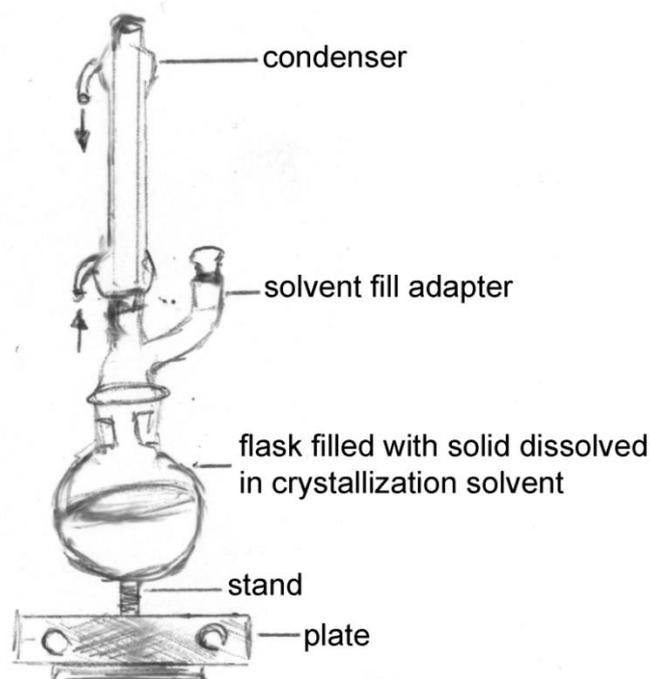

Fig. 5. Crystallization installation
A typical apparatus used for the crystallization is shown in Fig. 5. It contains conical or round bottom flask, connected to condenser, and heating plate or water bath.
5. Connect the condenser to water according to the Fig 5, using glycerin grease.